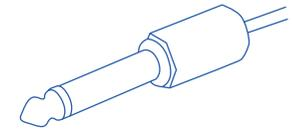

Fig. 2
**Unbalanced (Mono)** The most common variation for carrying single channels of audio and primarily used for plugging in instruments (e.g. electric guitar). (Fig. 2)